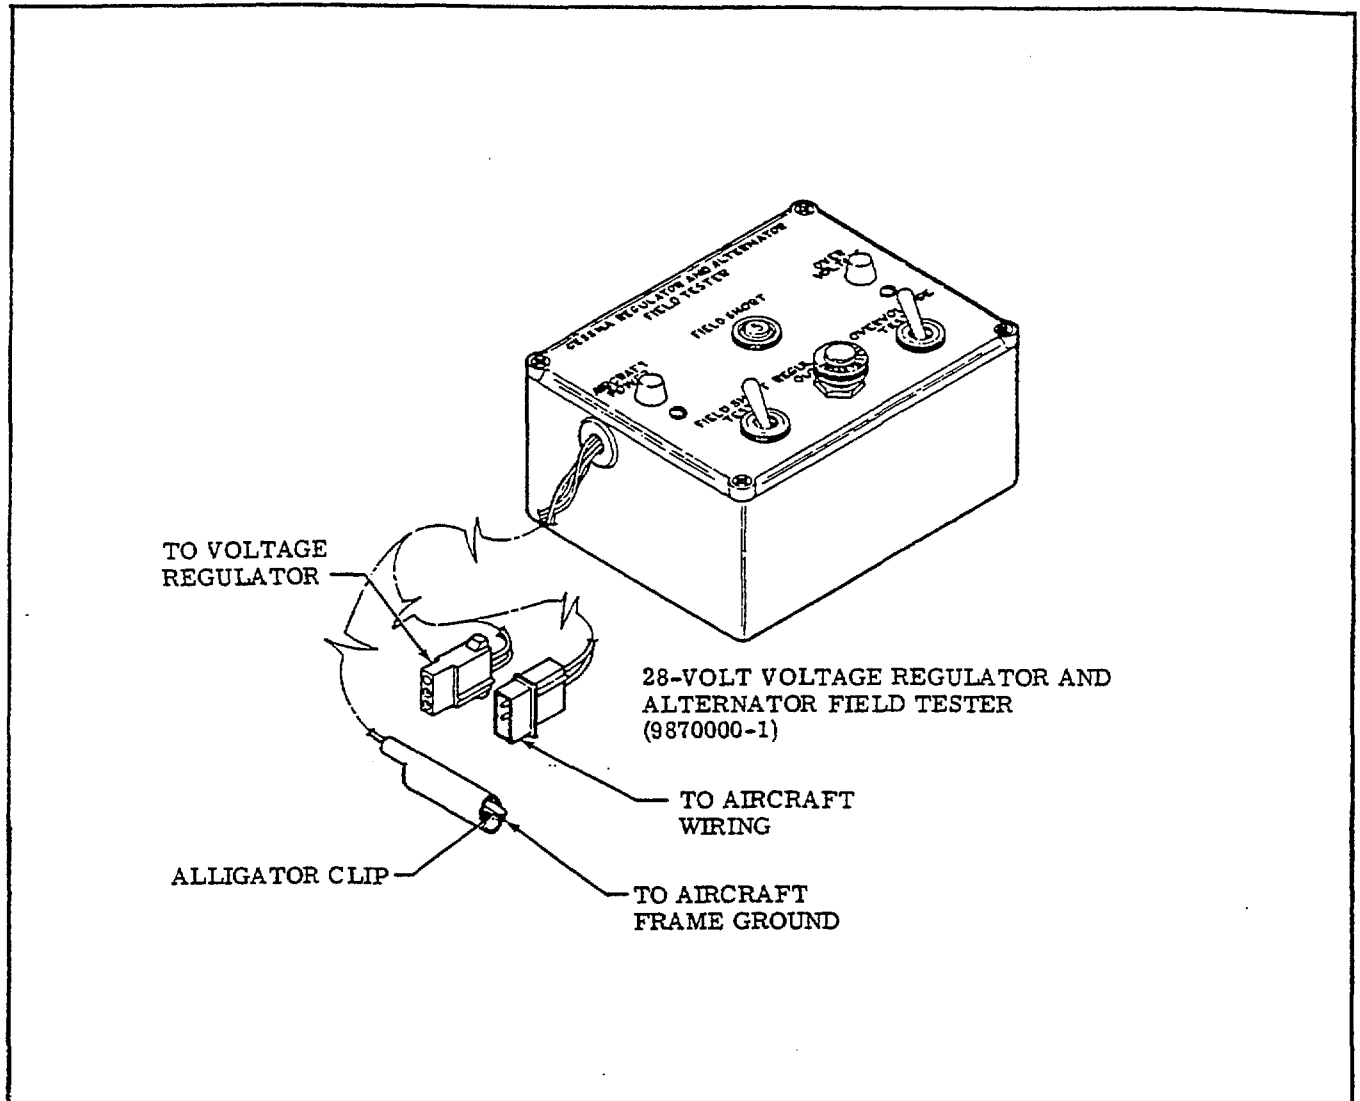

Figure 6-1. Voltage Regulator and Alternator Field Tester
1. Open the connection between the voltage regulator and aircraft wiring as shown in Figure 6-1. Hook-up Voltage Regulator/ Alternator Field Tester to voltage regulator and aircraft connector, connect ground lead (alligator clip) to aircraft frame.